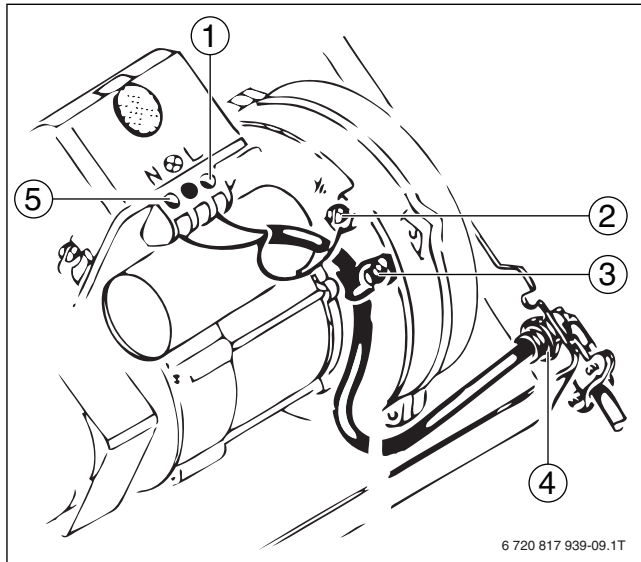

Fig. 53
- ▶ Ground wire from power supply to G screw on Hydrolevel and ground terminal on burner (Fig. 53).